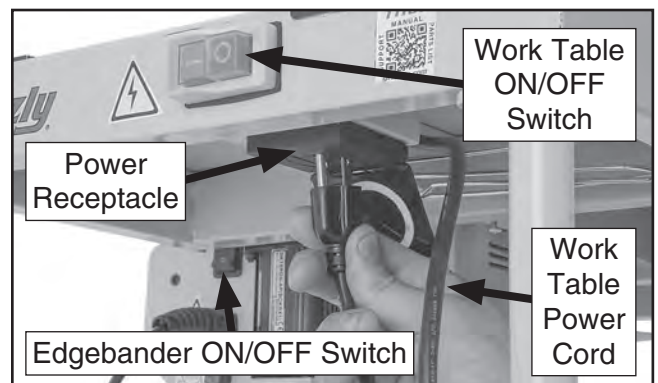

Figure 15. Plugging edgebander into table power receptacle.
3. Plug portable edgebander power cord into power receptacle under main table, as shown in **Figure 15**, then plug work table power cord into wall receptacle.
1. Turn work table ON/OFF switch **ON**, then turn portable edgebander ON/OFF switch **ON** (see **Figure 15**). Set edgebander to appropriate glue temperature setting using indicator arrows (↔) (see **Figure 16A**).